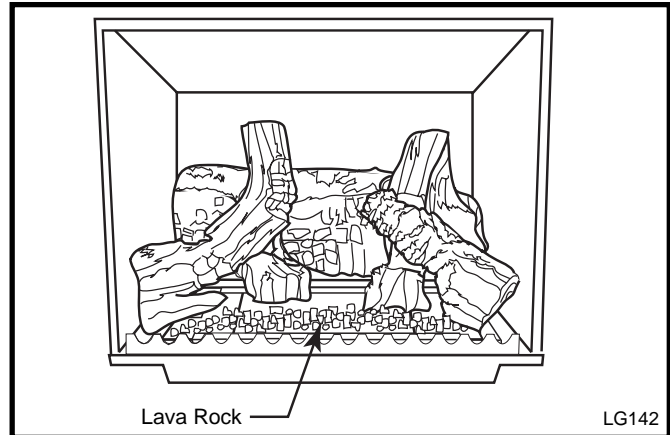
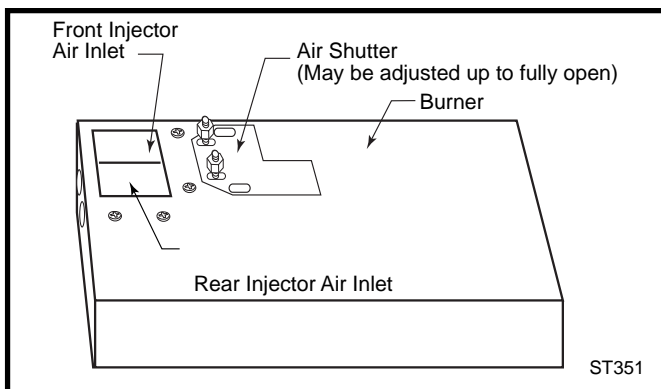

Fig. 41 Completed log installation.
Fig. 45 Air shutter adjusted.
5. Loosely sprinkle the lava rocks directly on top of the burner in front of and between the decorative grate and the right and left logs. Use the lava rock to cover brackets on the burner. (Fig. 41)
8. The air shutter is located on the bottom of the burner to the left. (Fig. 41) Unfasten the two nuts holding the shutter in place. The shutter may be adjusted between the factory adjusted 1/2" to fully open. Reassemble the shutter to allow the rear injector air inlet to close from the minimum 1/2" opening to fully open. (Fig. 45) You may have to try more than once to find the correct air shutter opening for best results depending on your altitude.